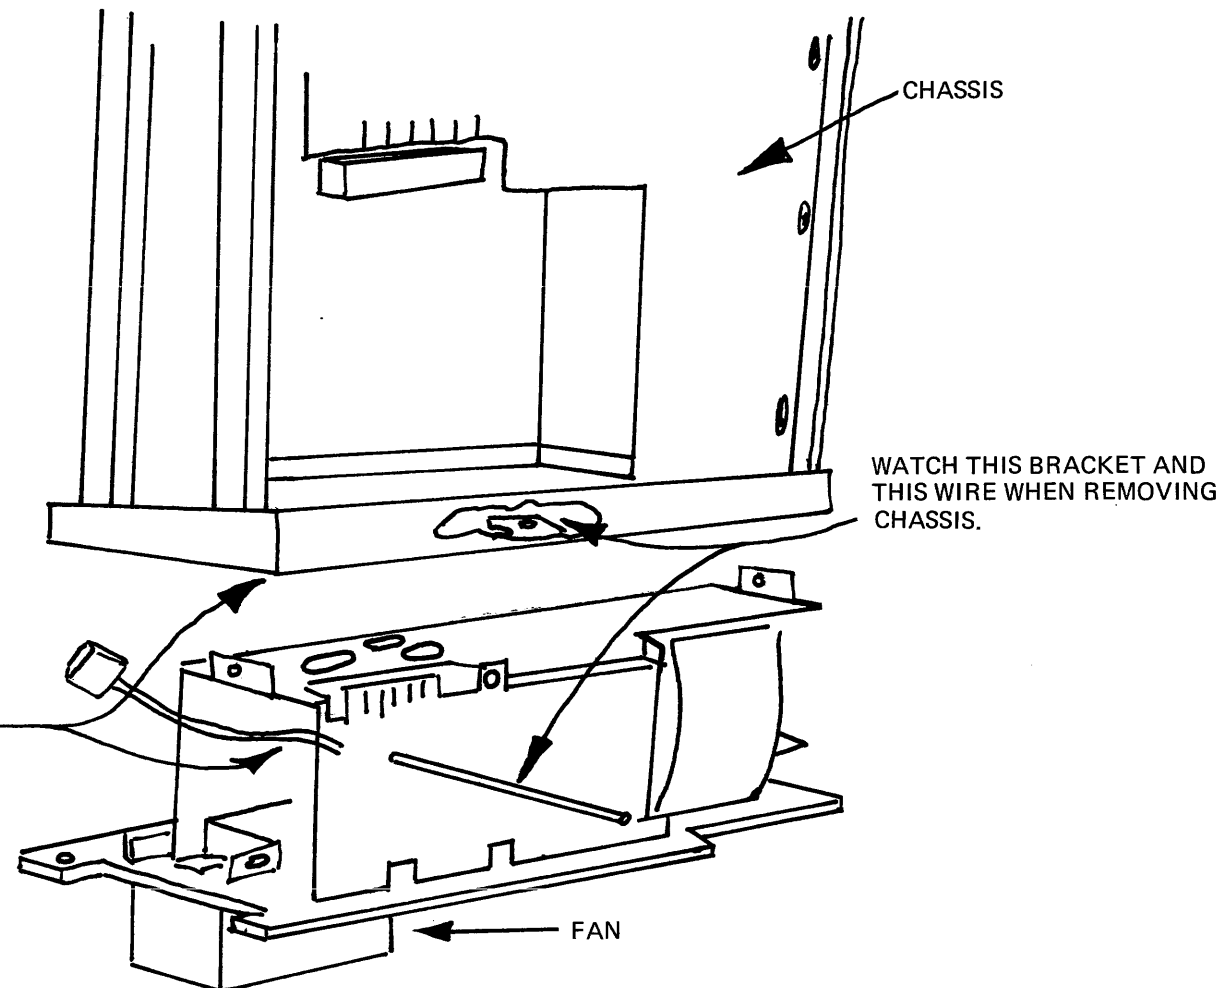

FIG. 5
- Step 6. With chassis standing on rear panel and fan cover, lift chassis clear of power supply, Fig. 5.